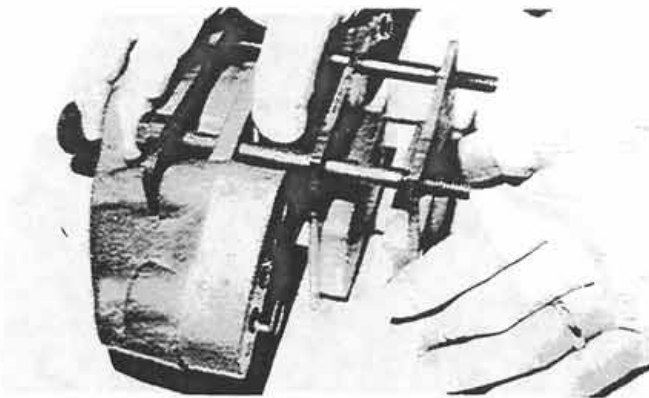

Figure 22:
10. Install the two new pads and holder assemblies onto the pins with the friction faces in contact with each other (Fig. 22).